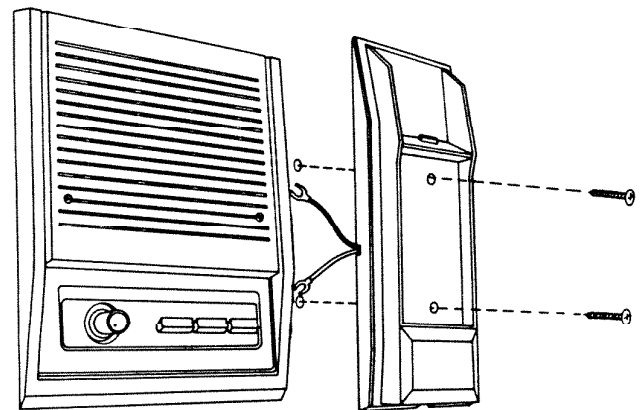

FIGURE 6
7. Dress wires through wiring knockout and mount cradle to the wall with two mounting screws. See Figure 6.